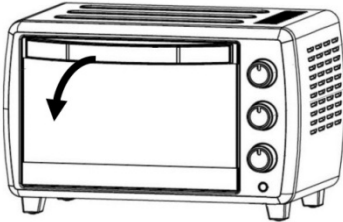

Fig. 3
- How to open and close the door – See fig. 3 & 5